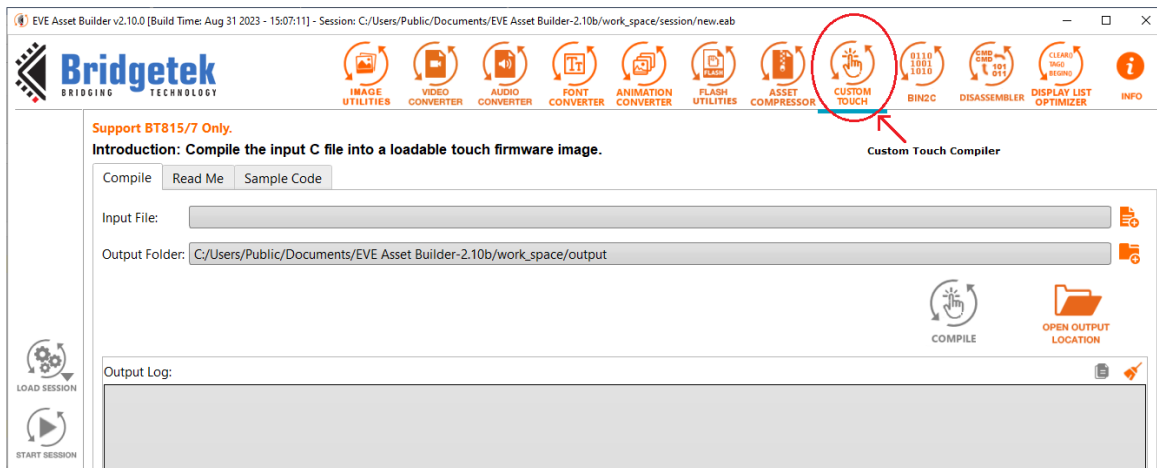

Figure 2 - EVE Asset Builder - Custom Touch Page
1. Click on the Custom Touch button to go to the Custom Touch page as shown in Figure 2.